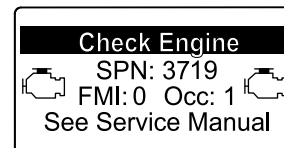

Figure 55
- If a recovery regeneration is needed, the InfoCenter displays engine warning SPN 3719, FMI 16 (Figure 55) and the engine computer derates engine power to 85%.